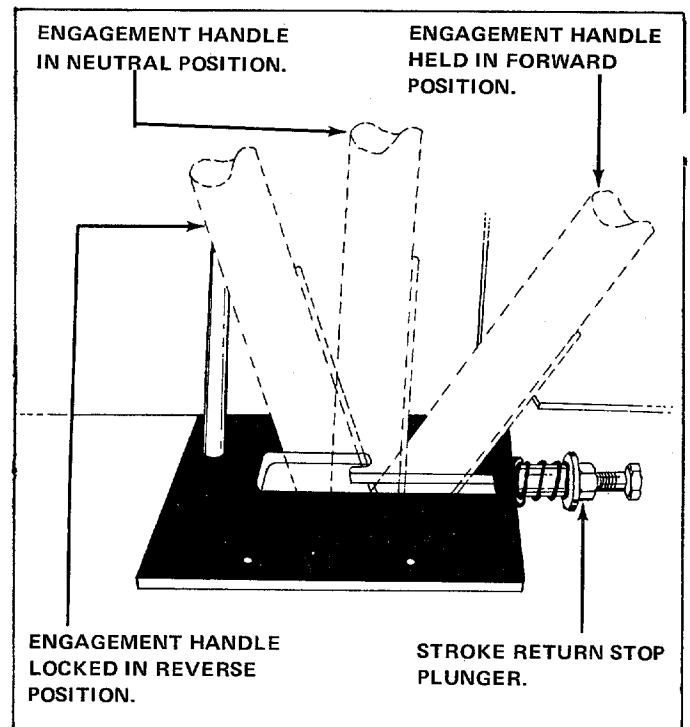

FIGURE 21
- Engagement handle has three positions: Forward—moves ram toward wedge. Neutral—ram stops in place. Reverse—ram returns. See figure 21.